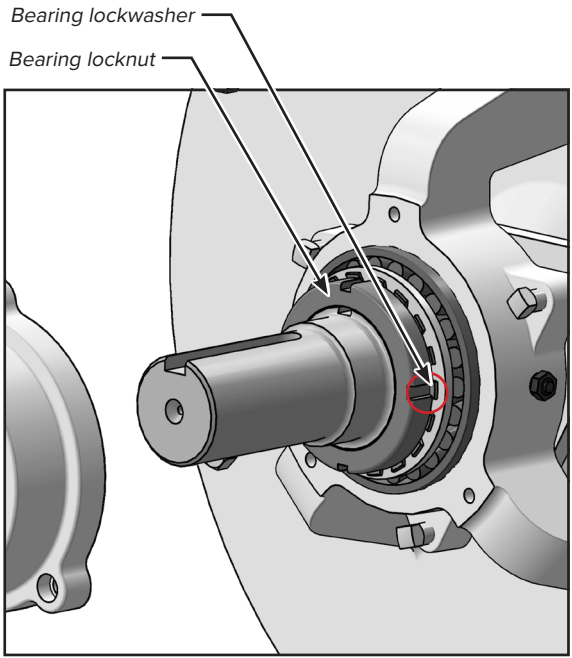

FIGURE 11
- 6. Straighten the bearing lock washer tab engaged with bearing lock nut as shown (figure 11).
- 10. Straighten the bearing lock washer tab engaged with bearing lock nut as shown (figure 11).